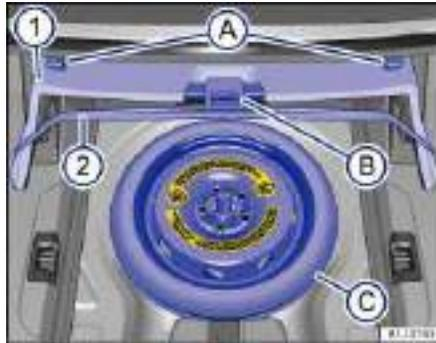

Fig. 106 Compact spare wheel and tire C inside the luggage compartment under the floor covering.
- Open the luggage compartment lid. Lift up the luggage compartment cover ⇒ fig. 106 (1) and latch it by slipping its hooks over the tabs (A).
- Lift the floor covering (2) and use the hook (B) to hang it on the handle of the raised luggage compartment cover (1) so that you have both hands free to remove the compact spare wheel.
- Completely unscrew the handwheel in the center of the compact spare (C) counterclockwise and remove the compact spare wheel.